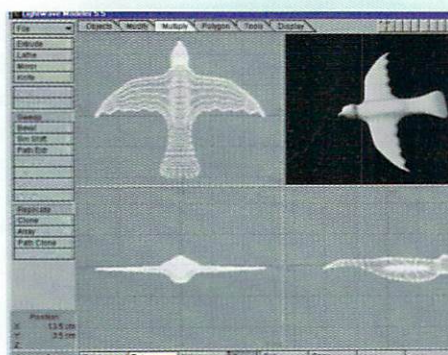

Figure 10
20. To finish things out, Merge [m] the points on the centerline together. Save a copy of the MetaBox under a suitable name and MetaForm [shift - d] the model twice with a Max Smoothing Angle of 179.0 and fractal of 0.0. Name the polys [g] Birdy and save the finished Model as "Birdy.lwo." Your finished Model should look like Figure 10.